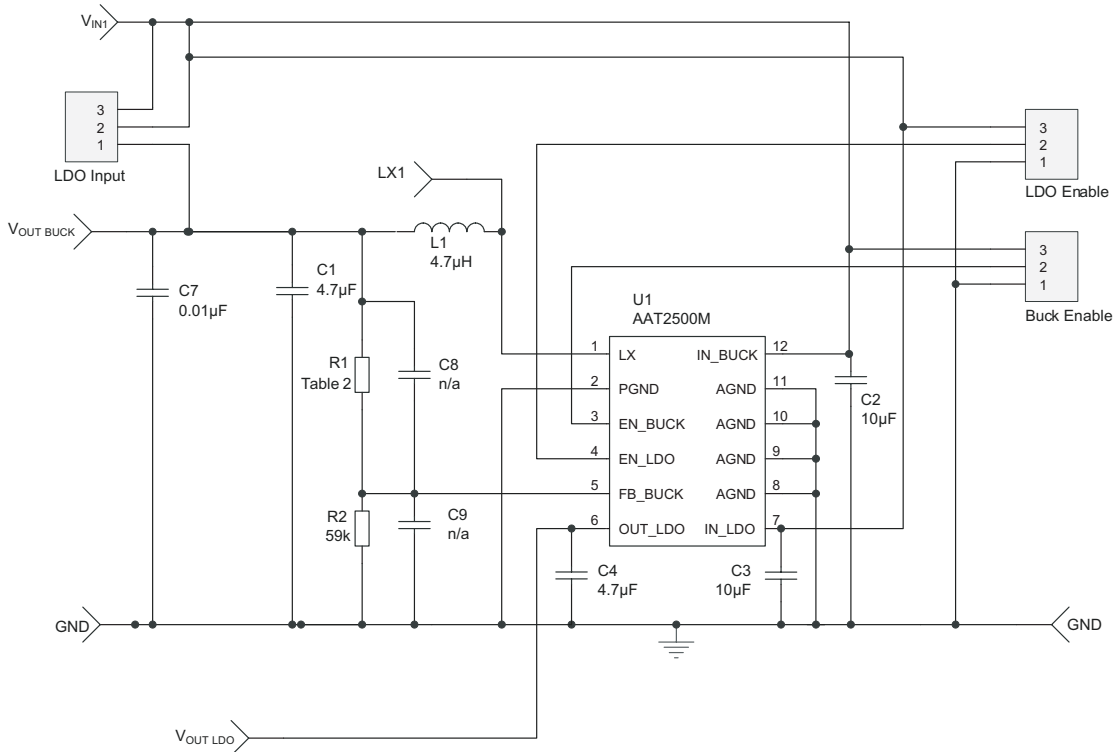

Figure 5: AAT2500M Evaluation Board Schematic.
For applications requiring an adjustable output voltage (V_O or V_{OUT}), the 0.6V version can be externally programmed. Resistors R1 and R2 of Figure 5 program the output to regulate at a voltage higher than 0.6V. To limit the bias current required for the external feedback resistor string while maintaining good noise immunity, the minimum suggested value for R2
1. The input capacitor C2 should connect as closely as possible to IN_BUCK and PGND, as shown in Figure 5.